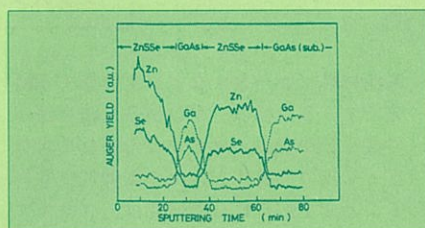

Fig.1 In-depth Auger profiling of constituent elements in ZnSSe/GaAs/ZnSSe DH structure.
- (1) lattice-matching at the growth temperature,
- (2) sufficient preflow of TEAs with irradiation,
- and (3) Zn-stabilized surface of Zn(S,Se). Hence we succeeded in fabrication of a ZnSSe(300nm)/GaAs(100nm)/ZnSSe(300nm) DH structure, which was confirmed by SEM and AES(Fig.1)